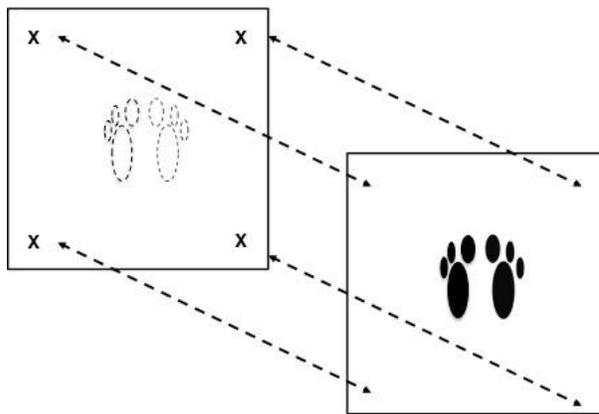

Figure 1.4
- Step with one foot on each corner of the balance board and check whether the pressure (by looking at the number) of each of the corresponding sensor increases (see **Figure 1.4**) for reference (which corners of the balance board correspond to which numbers)